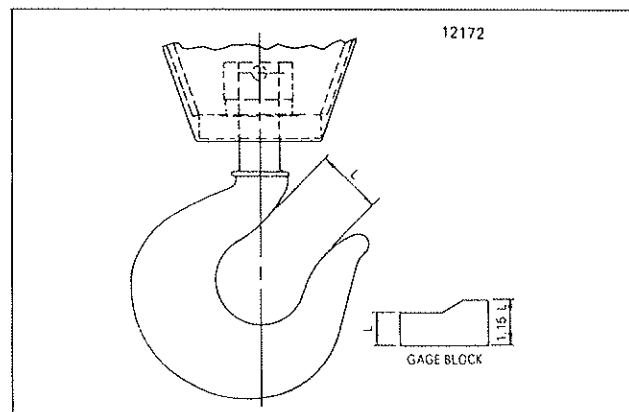

Figure 5-1. Method of measuring hook throat opening.
- f. Check throat opening of hook. (Refer to Figure 5-1.) It is recommended that upon receipt of the hoist, a measurement be made and recorded of the hook throat opening. OSHA regulations require that the hook be replaced if the throat opening exceeds 15 percent of the original opening, or if the hook is twisted more than 10 degrees from the unbent plane. A gage block, properly identified to the hoist, similar to the one shown in Figure 5-1 is suggested to be made for each hook for use in these measurements.